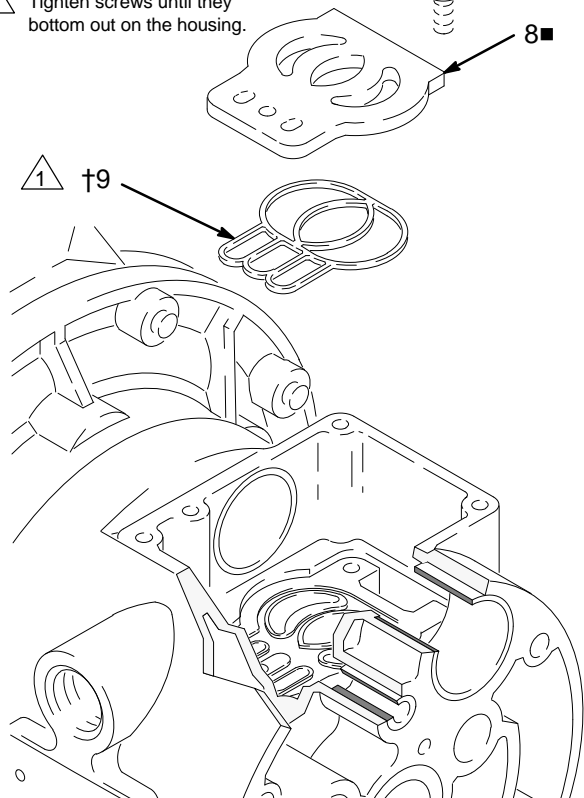

Fig. 11
5. Inspect the valve plate (8■) in place. If damaged, use a Torx (T20) screwdriver or 7 mm socket wrench to remove the three screws (3). Remove the valve plate (8■) and, on aluminum center housing models, remove the seal (9†). See Fig. 11.
2. On aluminum center housing models, install the valve plate seal (9) into the groove at the bottom of the valve cavity. The rounded side of the seal **must face down** into the groove. See Fig. 11.
3. Install the valve plate (8) in the cavity. On aluminum center housing models, the plate is reversible, so either side can face up. Install the three screws (3), using a Torx (T20) screwdriver or 7 mm socket wrench. Tighten until the screws bottom out on the housing. See Fig. 11.